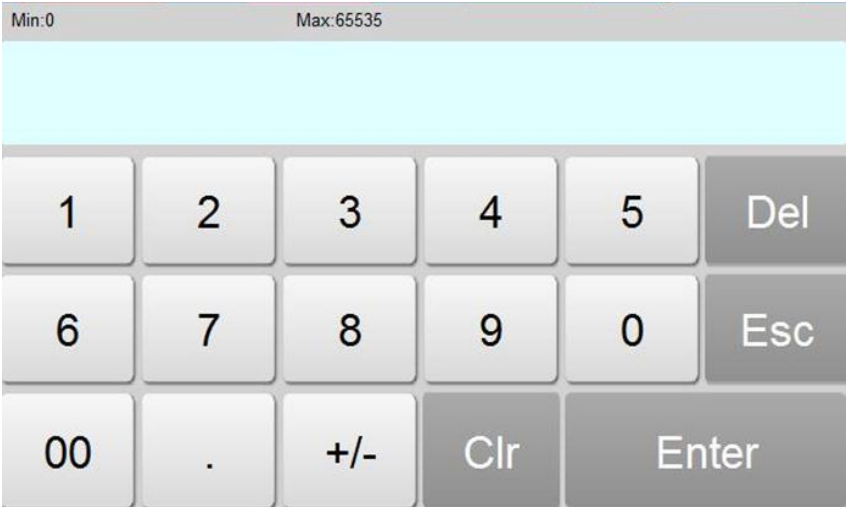

Figure 4-90 Keyboard
- Keyboard input: Three options in the "State Type" can be selected. In the simulation or screen, when click the control, it will pop up a keyboard for user to enter the value, as shown in Figure 4-90: